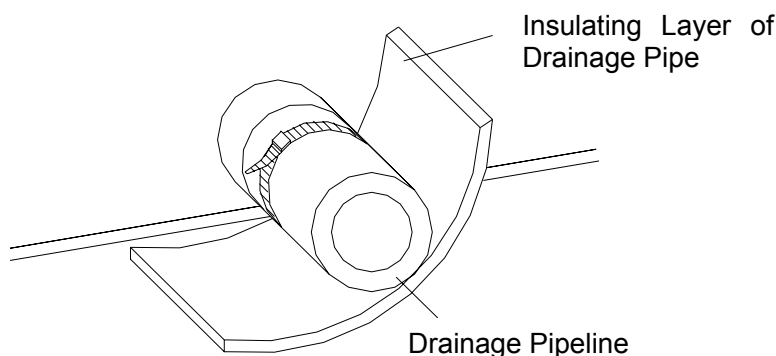

Fig. 37 Thermal Insulation of Drainage Pipeline
- (1) The Drainage Pipeline shall be installed with an inclining angel of $5^{\circ} \sim 10^{\circ}$, so as to facilitate the drainage of condensate. The joints of the Drainage Pipeline must be covered by thermal insulation materials to avoid generation of exterior condensate. (As shown in Figure 37)
- (2) A Drainage outlet is located at both the left and right sides of the indoor unit. After selecting one Drainage outlet, the other outlet shall be blocked by rubber plug. Bundle the blocked outlet with string to avoid leakage, and also use thermal insulation materials to wrap the blocked outlet.
- (3) When shipped out from factory, both the Drainage outlets are blocked by rubber plugs.
- (4) When connecting the drainage pipe with the unit, do not apply excessive force to the pipeline at the side of the unit. The fixing position of the pipeline shall be near the unit.
- (5) Purchase general-purpose hard PVC pipe locally to be used as the drainage pipeline. When carrying out connection, place the end of the PVC pipeline into the drainage hole. Use flexible drainage tube and tighten it with thread loop. Never use adhesive to connect the drainage hole and the flexible drainage tube.
- (6) When the laid drainage pipe is used for multiple units, the common pipe shall be about 100mm lower than the drainage outlet of each set of unit. A pipe with thicker wall shall be used for such purpose.